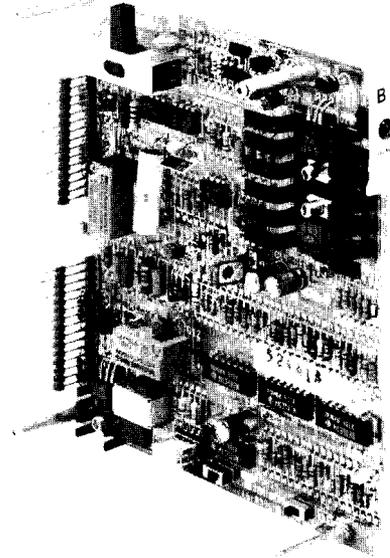

figure 1. 6008B FXO-to-E&M Signaling Converter subassembly
1.01 The 6008B FXO-to-E&M Signaling Converter plug-on subassembly (figure 1) provides bidirectional conversion between foreign-exchange office-end (FXO) signaling, which is the type of loop signaling normally used at the office (switching-equipment) end of a foreign-exchange (FX) or off-premises-station (OPS) circuit, and the type of E&M signaling used by a carrier channel (or a PBX). In such applications, the 6008B converts FXO signaling from the office end of the circuit to E-lead outputs (with A-side signaling) or M-lead outputs (with B-side signaling) toward the carrier channel or PBX, and converts M-lead inputs (with A-side signaling) or E-lead inputs (with B-side signaling) from the carrier channel (or PBX) to FXO signaling toward the office end. The 6008B subassembly is designed expressly for optional use on the Tellabs 6131 2Wire-to-4Wire or 4Wire-to-4Wire Terminal Interface Module.